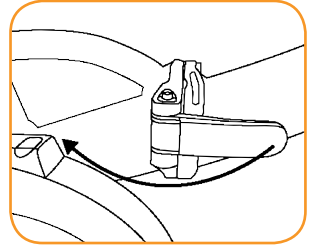
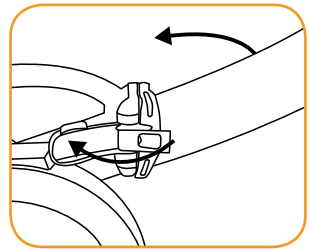

fig. 5.1
fig. 5.2
3. Unlock the frame clamp (fig. 5.1, fig 5.2). and fold the frame